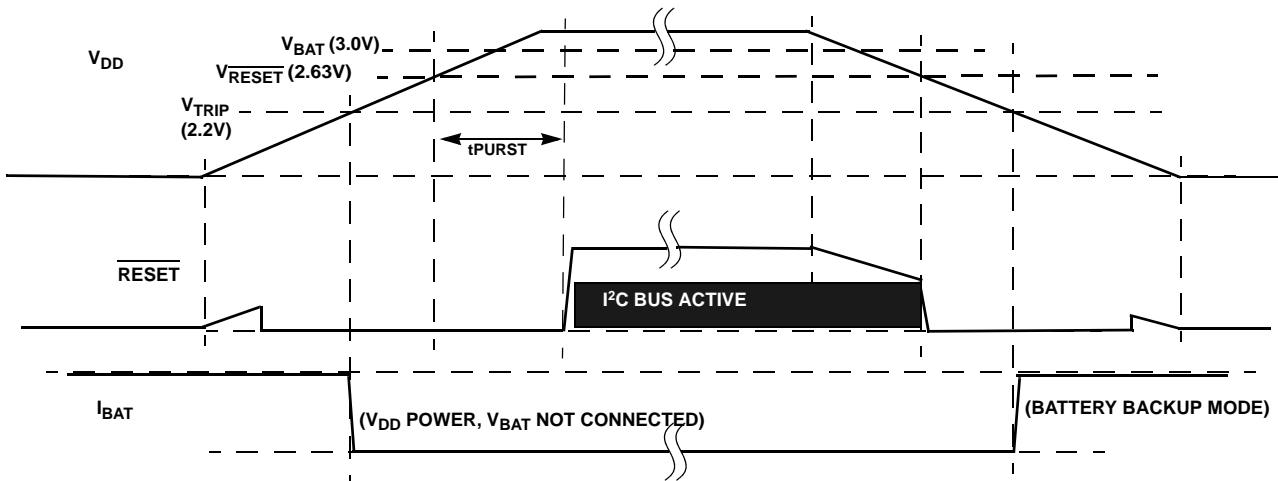

FIGURE 29. EXAMPLE RESET OPERATION IN MODE A OR C
- Mode A - In this mode, selection bits indicate a low VDD switchover combined with I²C operation in battery backup mode. In actuality the VDD will go below V $\overline{\text{RESET}}$ before switching to battery backup, which will disable I²C ANYTIME the device goes into battery backup mode. Regardless of the battery voltage, the I²C will work down to the V $\overline{\text{RESET}}$ voltage (see Figure 29).
- Mode C - In this mode, the selection bits indicate a low VDD switchover combined with no communications in battery backup. Operation is actually identical to Mode A with I²C communications down to $V_{DD} = V_{\overline{\text{RESET}}}$, then no communications (see Figure 29).